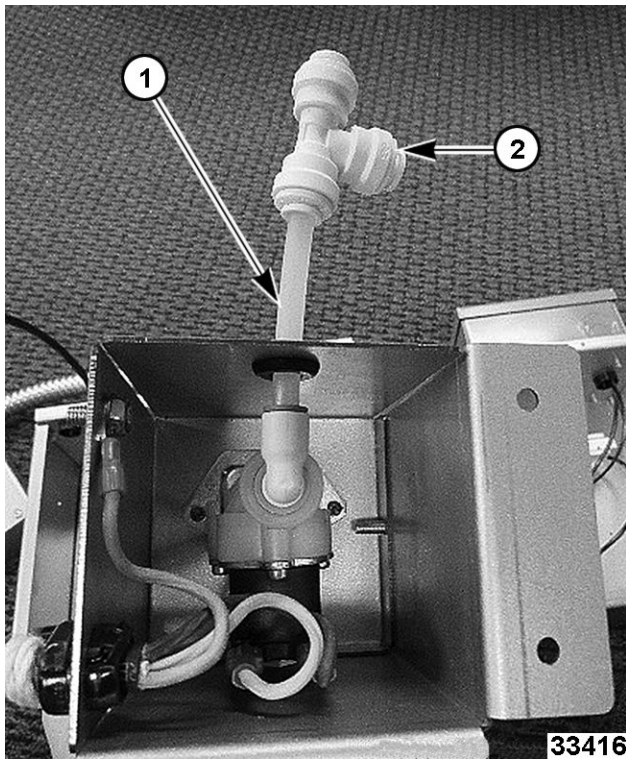

Fig. 68
1. Insert the supplied 3-inch long, 1/4" poly tube (1, Fig. 68) through grommet on side of solenoid cover, and connect to the Push-to-Connect (PTC) elbow attached to the bottom of the solenoid.
2. Attach one of the supplied PTC tees (2, Fig. 68) to the 3-inch poly tube.